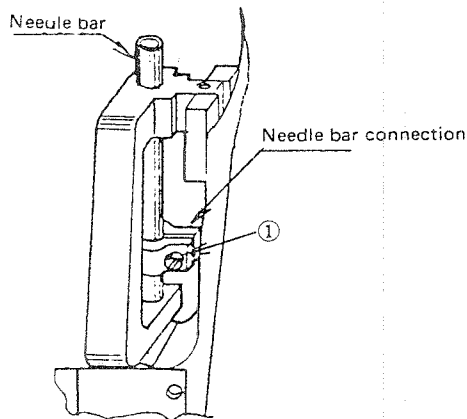

Fig. 4
<p>If the needle bar is installed twisted ;</p> <ol style="list-style-type: none"> 1. Set the stitch length to 0 mm. 2. Turn the handwheel until the needle bar has come down to the lowest point of its stroke. 3. Loosen screw ① (Fig. 4). 4. Turn the needle bar until both needles stay in the middle of their needle feed slots. Tighten screw ① (Fig. 4). <p>(CAUTION)</p> <p>Take care not to change the height of the needle bar.</p> <ul style="list-style-type: none"> ○ Don't turn the needle clamp before screw ① (Fig. 4) is loosened. Otherwise, the needle clamp may come down accidentally while stitching. <p>If the needle deflects in the lengthwise direction of the needle feed slot ;</p> <ol style="list-style-type: none"> 1. Loosen screw ① (Fig. 6) 2. Adjust the position of the feed rocker so that both needles stay in the middle of the slots. 	<ul style="list-style-type: none"> ○ If the needles fail to enter the middle of their slots, stitch skipping, thread breaking or loose stitch may occur. ○ If the needles enter the bar end of the elongated slots (2 x 3 mm) viewed from the operator's side, the needle thread forming a stitch comes out too much on the fabric. * If the needles enter the near end of the elongated slot, thread trimming failure may occur.
(2) Needle-to-hook relation